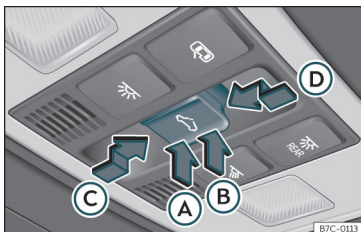

Fig. 84 On the interior roof lining: sunroof button.
The button Fig. 84 has two levels. The first level switches the sunroof to the tilted position, opening or closing it fully or partially.
- *Sunroof*: within approximately 5 seconds of having activated the roll-back function, press the  button **>>> Fig. 84** to the second level in the direction of arrow **>>> Fig. 84**  until the sunroof closes completely.